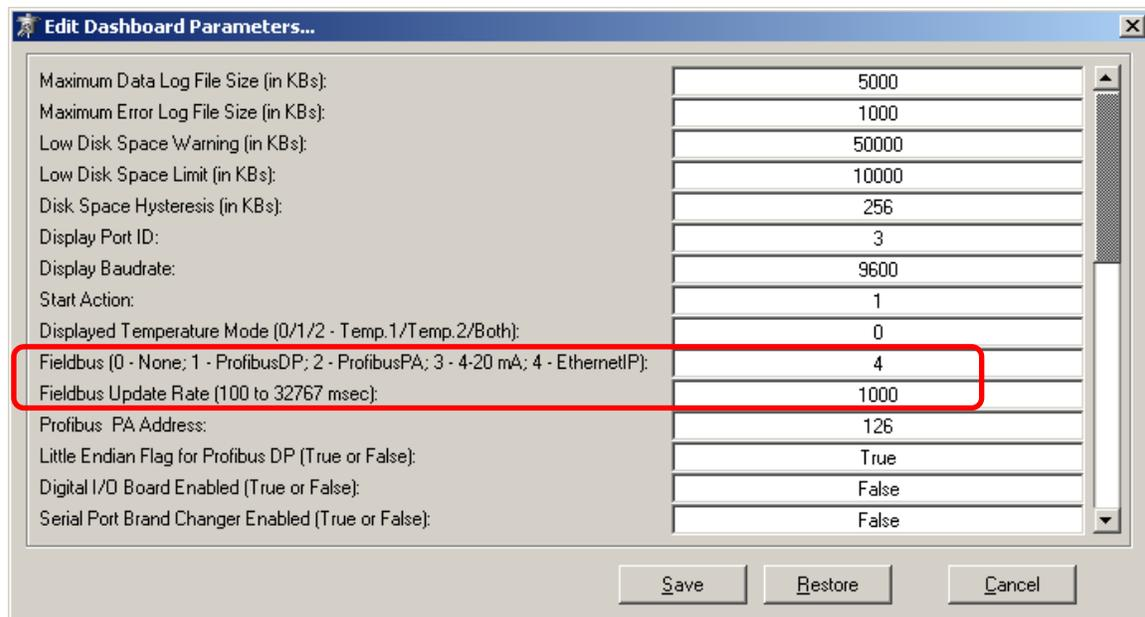

Fig. 1
3. The *VS-3000E DASHBOARD* program will already be running minimized on the Windows desktop. Maximize the program and click **Edit**>>Dashboard Parameters. Verify the number in the *Fieldbus* row; it should be “4” for EtherNet/IP. See the *Figure: 1* below.